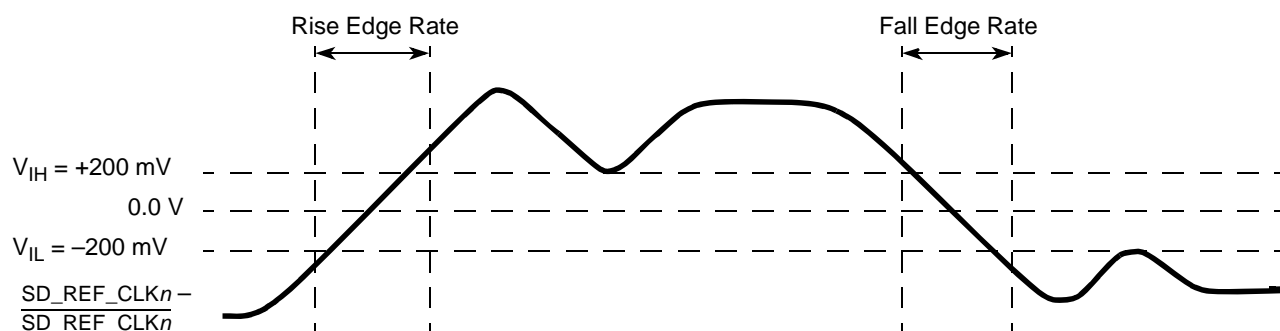

Figure 14. Differential Measurement Points for Rise and Fall Time
3. Measured from –200 mV to +200 mV on the differential waveform (derived from SD_REF_CLKn minus $\overline{\text{SD\_REF\_CLKn}}$ ). The signal must be monotonic through the measurement region for rise and fall time. The 400 mV measurement window is centered on the differential zero crossing. See Figure 14.